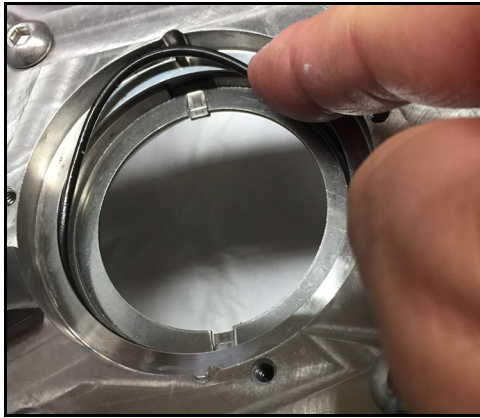

Figure 93 - Install seal O-ring
12. Install the lubricated stationary seal O-ring as shown in Figure 93.